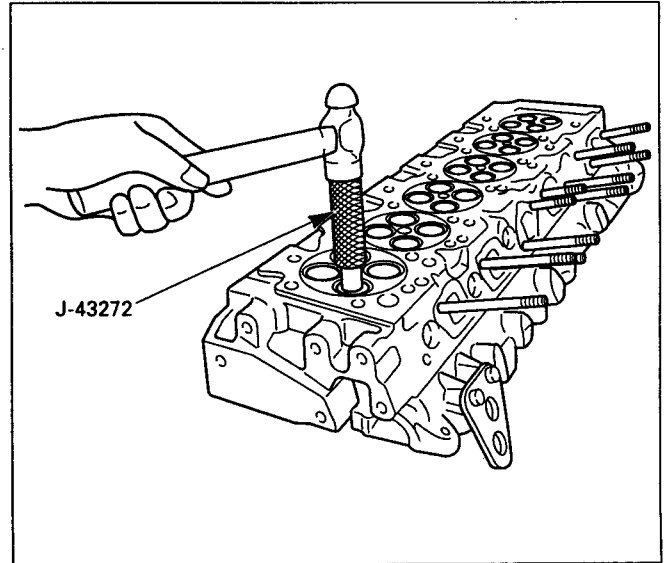

Figure 55 – Removing the Valve Guide
**Remove or Disconnect (Figure 55)**
Remove or Disconnect (Figure 55)